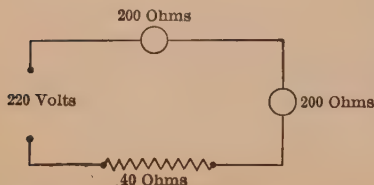

FIG. 26. The two lamps and coil are in series across a 220-volt line.
**Example.** (a) What is the resistance of the circuit in Fig. 26?